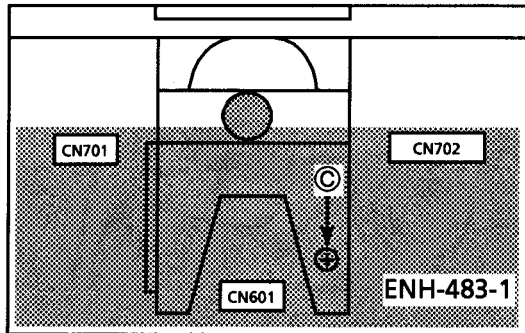

Fig. 3 UP SIDE
2. Remove the 2 screws ③. Disconnect the CN601. (Fig.3)
2. Disconnect the CN701 and CN702. (Fig.3)
3. Remove the 2 screws ⑤.
4. Release the hooks ⑥ holding the front panel, and remove the front panel assembly.